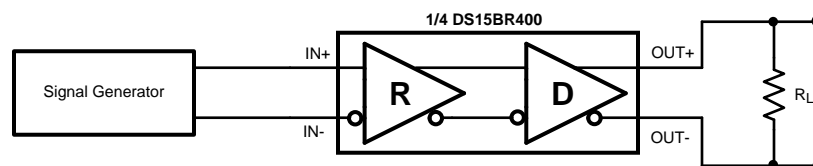

Figure 6. Differential Driver AC Test Circuit
| t LHT                       | Differential Low to High Transition Time (4)     | Use an alternating 1 and 0 pattern at 200 Mbps, measure between 20% and 80% of V OD .<a href="#">Figure 6</a> , <a href="#">Figure 8</a>        |      | 170        | 250   | ps    |
| t PLHD                      | Differential Low to High Propagation Delay                  | Use an alternating 1 and 0 pattern at 200 Mbps, measure at 50% V OD between input to output.<a href="#">Figure 6</a> , <a href="#">Figure 7</a> |      | 1.0        | 2.0   | ns    |